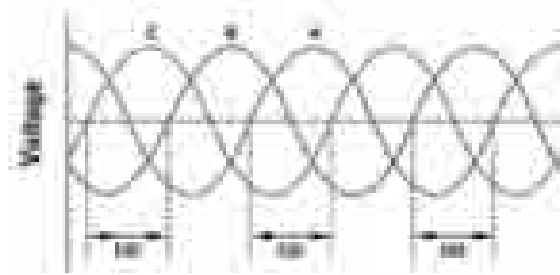

Figure 3
A three-phase generator consists of three coils equally spaced around the stator and connected in a wye (Y) or Delta (Δ) configuration. Therefore, three voltages can be produced consecutively with a 120° phase difference. Refer to **Figure 3**.